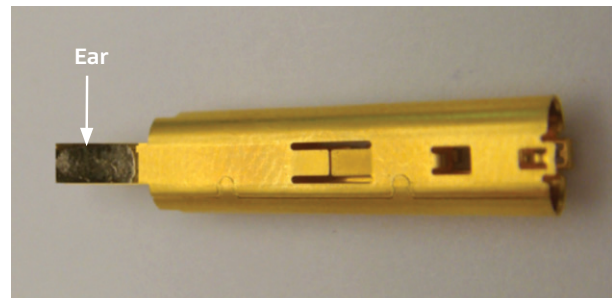

Figure 59: Tinning ears of outer body
- To prepare the outer bodies for each pair, tin the ears of each outer body, keeping the solder smooth (Figure 59).